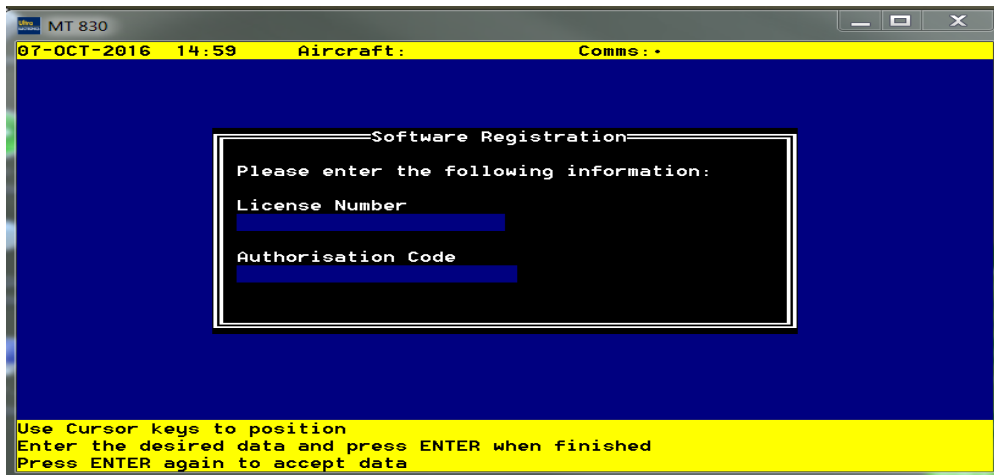

Figure 1.13 - Software Registration Screen
- (6) Once you have an Authorisation code press <ENTER>. The Software Registration Screen will be displayed (Ref. Figure 1.13).